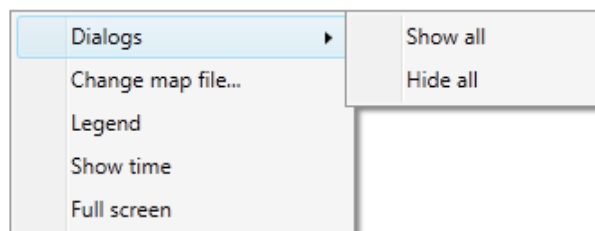

Figure 3-60: Display options
- For other display options as shown in Figure 3-60, right click on the map.